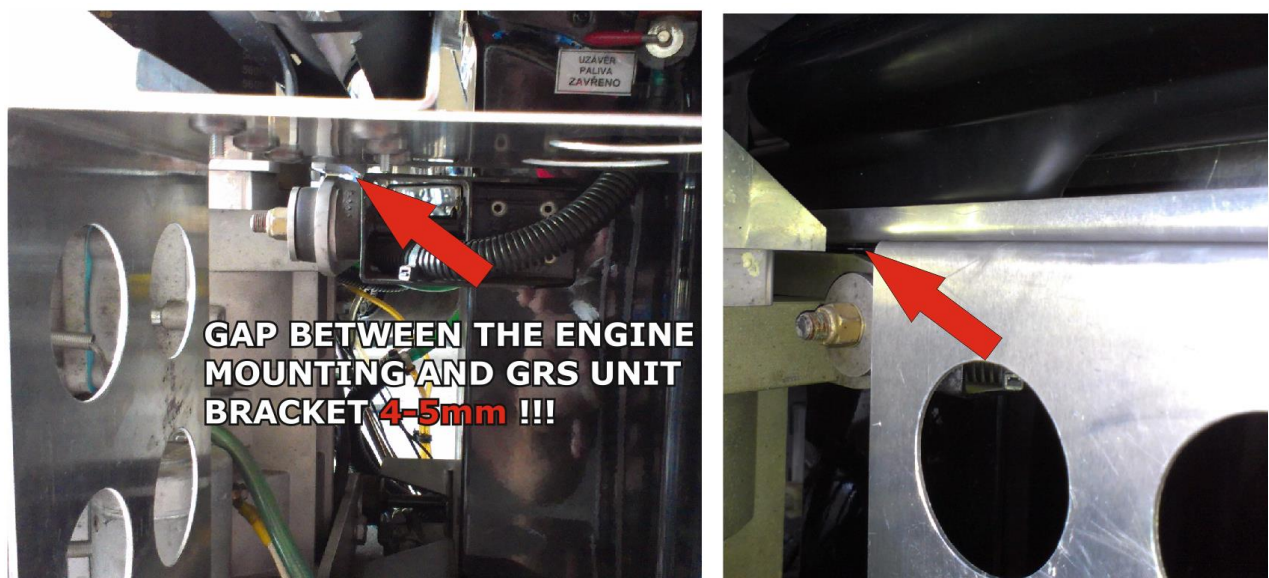

Figure 5
- 2) Attach the **GRS system assembly** to the right rear side of helicopter's firewall. **First place the GRS assembly to correct position.** There must be a **4-5 mm gap** between the engine mounting and GRS unit bracket according to figure 5 and **GRS unit should not overlap the edge of helicopter's fuselage !!!**. After that mark the correct position and drill 4x hole for M5 screw through the fuselage and fasten the GRS unit by self-locking nuts and metal washers.